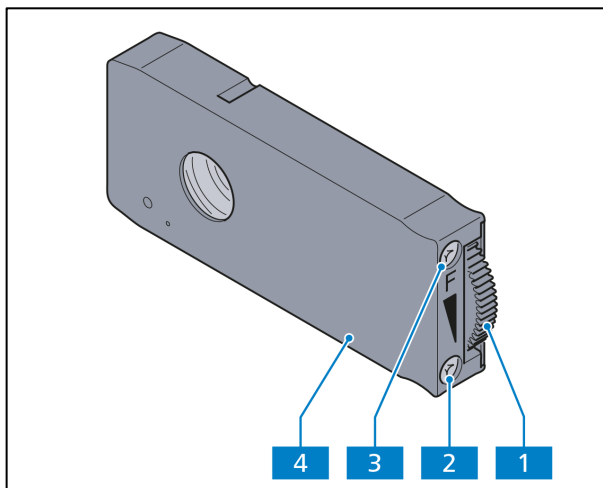

Fig. 2-15 14x40 mm stop slider
To adjust the reflected light beam path using the KÖHLER method, one 14x40 mm stop slider (Fig. 2-15/4) mounted in the upper part of the stand is required to function as a field diaphragm (**F**) and another to function as the aperture diaphragm (**A**).
- To open the diaphragm, turn the knurled wheel (Fig. 2-15/1) up.
- To close the diaphragm, turn the knurled wheel (Fig. 2-15/1) down.
- To center the diaphragm to the beam path, adjust the centering screws (Fig. 2-15/2 and 3) with an Allen wrench (AF 3).